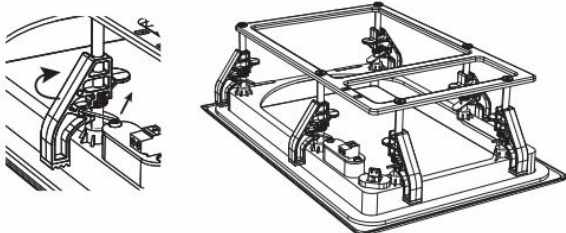

Fig. 5. Adjusting the Mounting Clamps
2. Adjust all of the mounting clamps of the frame so they are in the stowed position (Fig. 5 and 6). They are adjusted by pulling on the spring-loaded metal tab, and then moving the clamps along their mounting posts and rotating them to the side. This will allow the frame to fit into the drywall aperture.